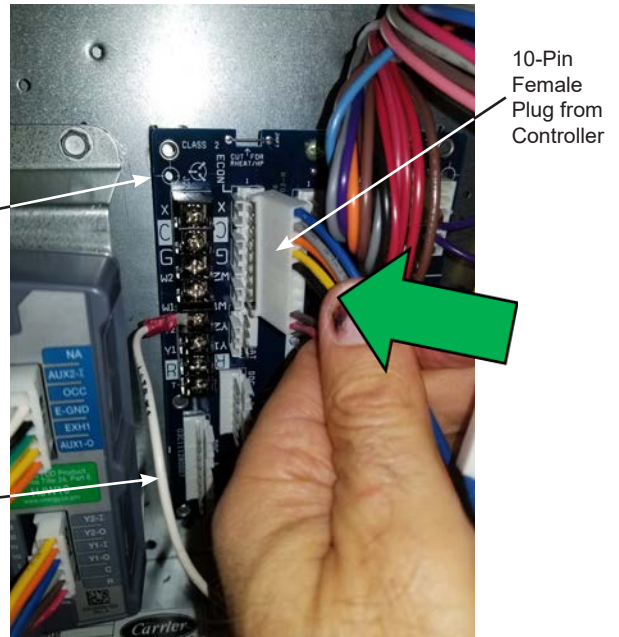

Figure 10 – Connect 10-Pin Jade Plug to Central Terminal Board
Step 13: Connect the 10-pin female plug from the Jade controller harness to ECON on the CTB. See Figures 10 and 18.
Step 14: Connect the White wire from the Jade controller harness to the W1 terminal on the CTB. See Figures 10 and 18.